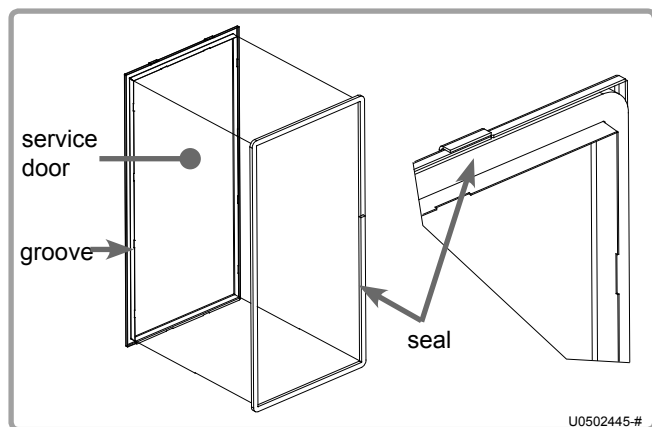

figure 46 - Changing door seals
- Remove the seals from their groove and replace with new seals from the maintenance kit (see figure 46).